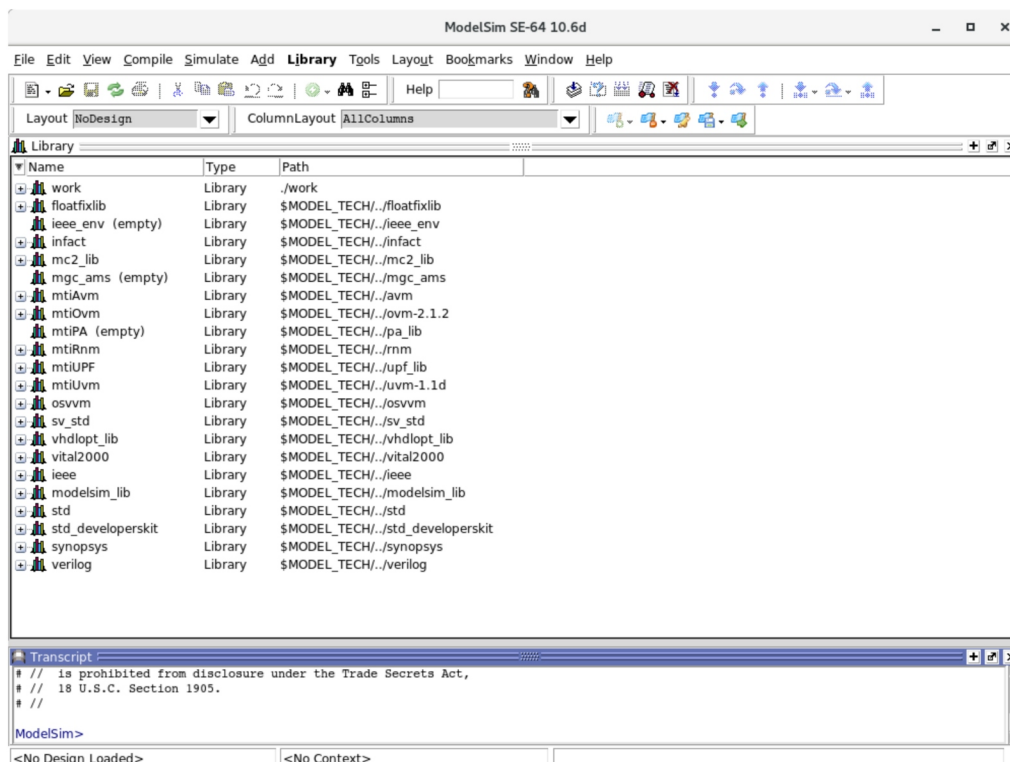

Figure 6 Modelsim simulator startup window
12. Look at the simulator start window in Figure 6.